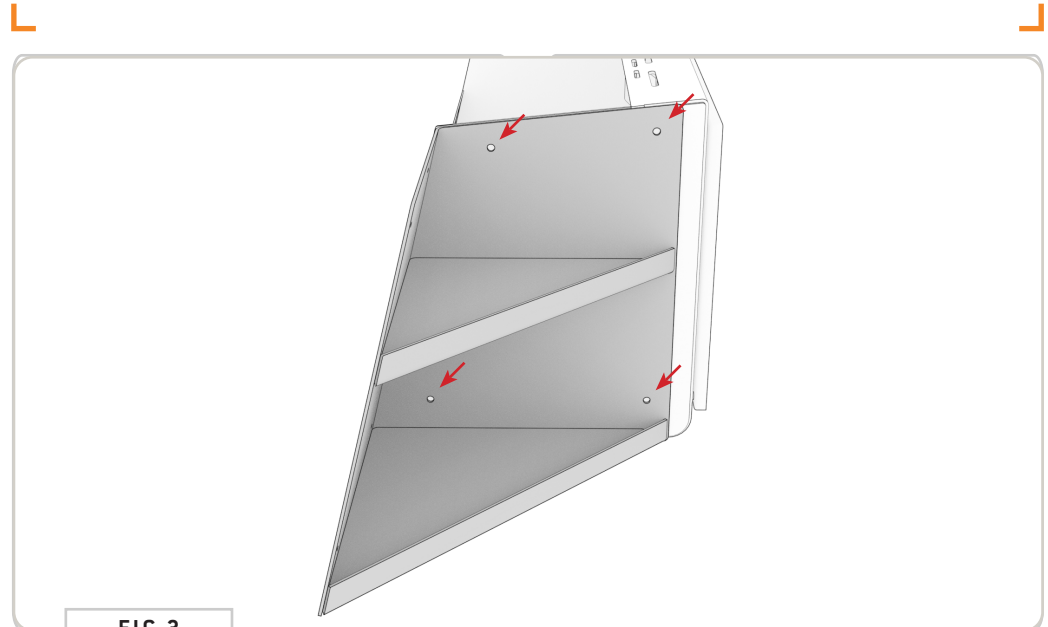

FIG 3
1.2 Mark Drill Holes: Dry-fit the **Angled Shelf** to the side of your **Cabinet**, ensuring that the contours along the back edge are aligned, and mark the holes for drilling (**FIG 3**).